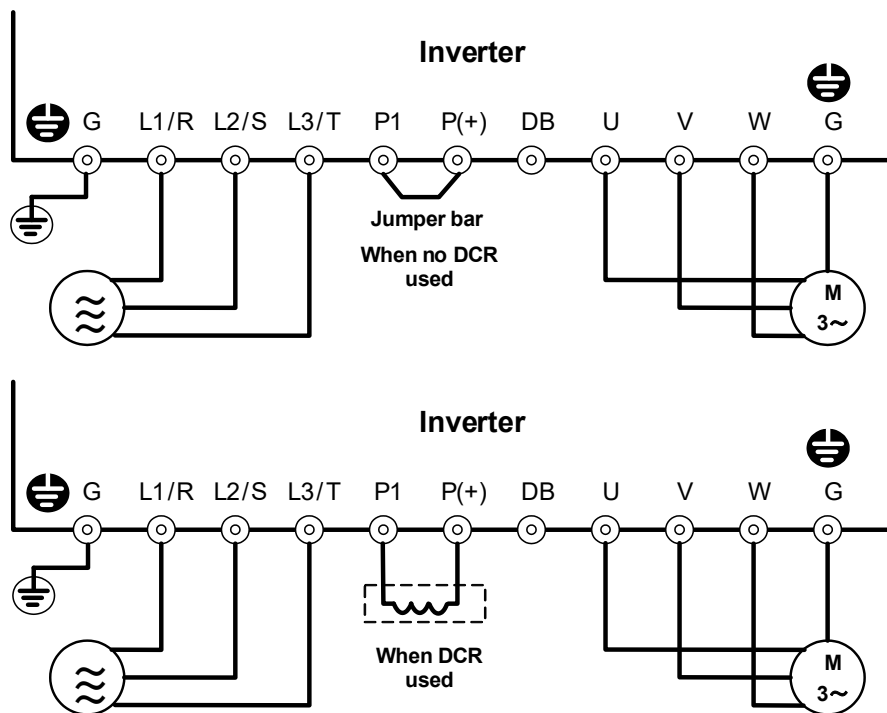

Figure 4.2-1 Connection of main circuit terminals (for three-phase type)
- (1) Check that the main power supply input terminals ([L1/R], [L2/S], and [L3/T] or [L1/L] and [L2/N]), the inverter output terminals ([U], [V], and [W]) and the inverter grounding terminal ([EG]) are correctly connected. (Refer to Figure 4.2-1.)